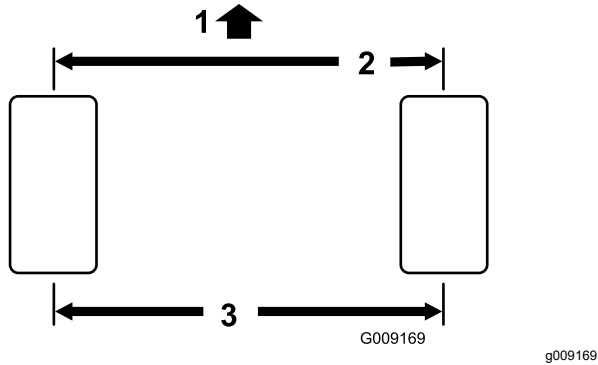

Figure 108
2. Measure the center-to-center distance (at axle height) at the front and rear of the steering tires (Figure 108).